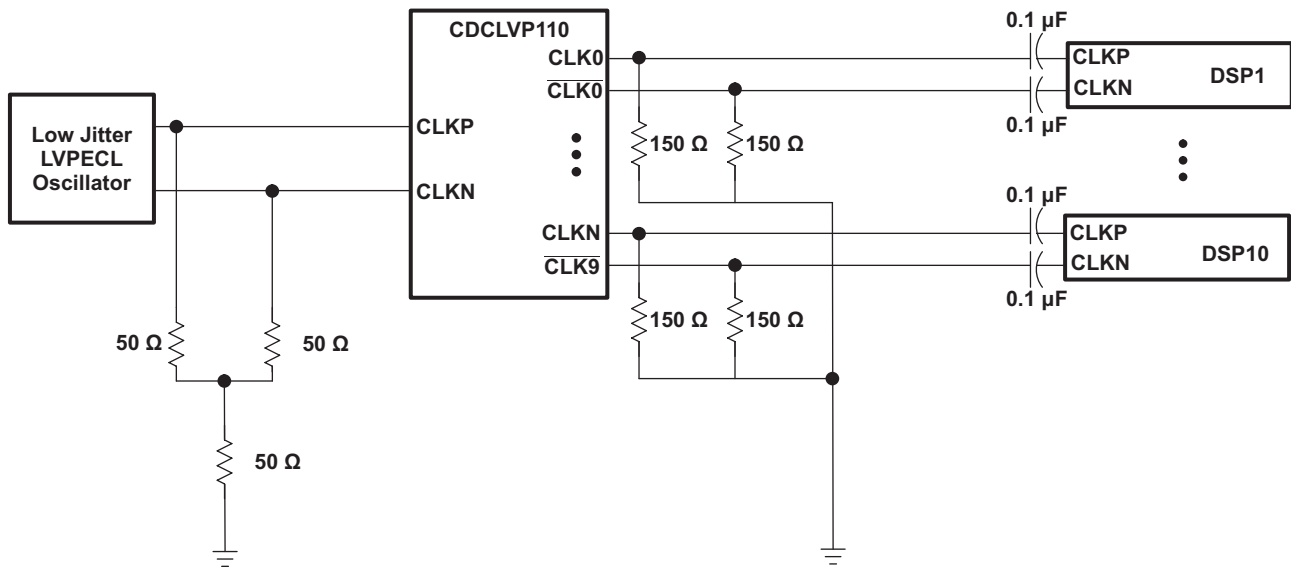

Figure 8. RIOCLK Multiple Devices LVPECL Clock Solution
- TI CDCLVP110 LVPECL 2:10 clock fanout buffer (see Figure 8)